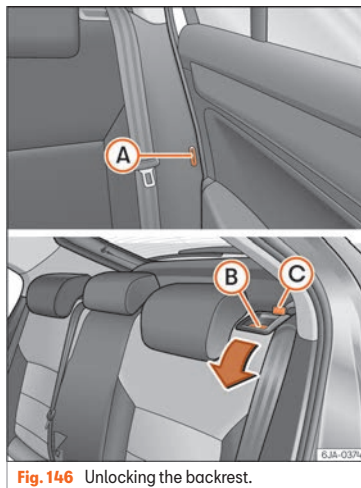

Fig. 146 Unlocking the backrest.
- Insert the seat belt latch plate into hole (A) »» Fig. 146 located on the corresponding side of the vehicle – safety position.
- Press the lock button (B) to unlock the backrest and fold it forward.